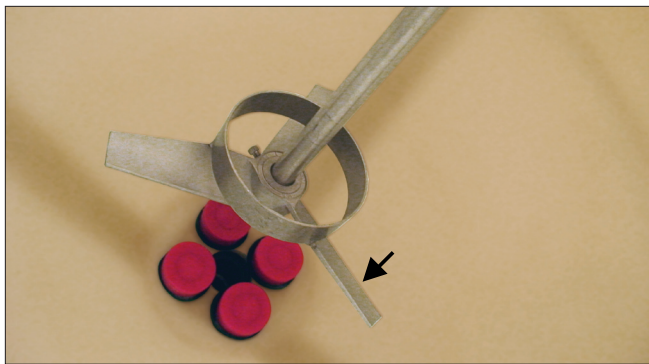

Fig. 2. Use a low-shear hydrofoil impeller for automated mixing of CHT media.
- For automated mixing, use a low-shear hydrofoil impeller\*\* as shown in Figure 2